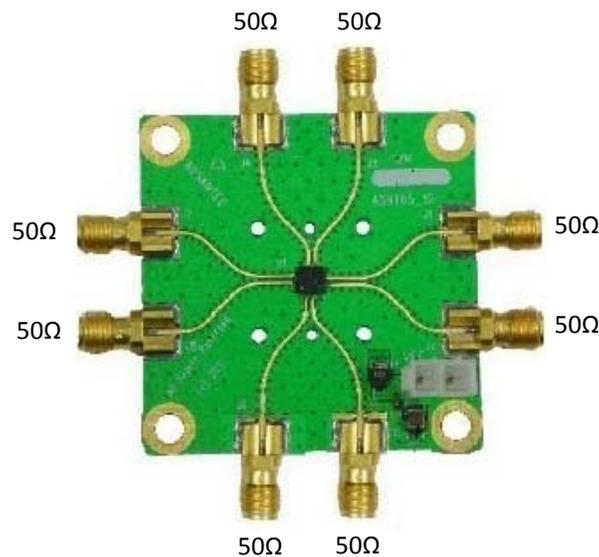

Fig. 2. Impedance of I/O Connectors
2. Measure the resistance of all connector pins to VCC, including the power supply, while making sure the board is grounded. All I/O ports should measure 50Ohms while on the power supply connector, VEE should be high impedance and GND should be a short. Fig. 2 **Error! Reference source not found.** shows the resistance values of the described I/O connectors.